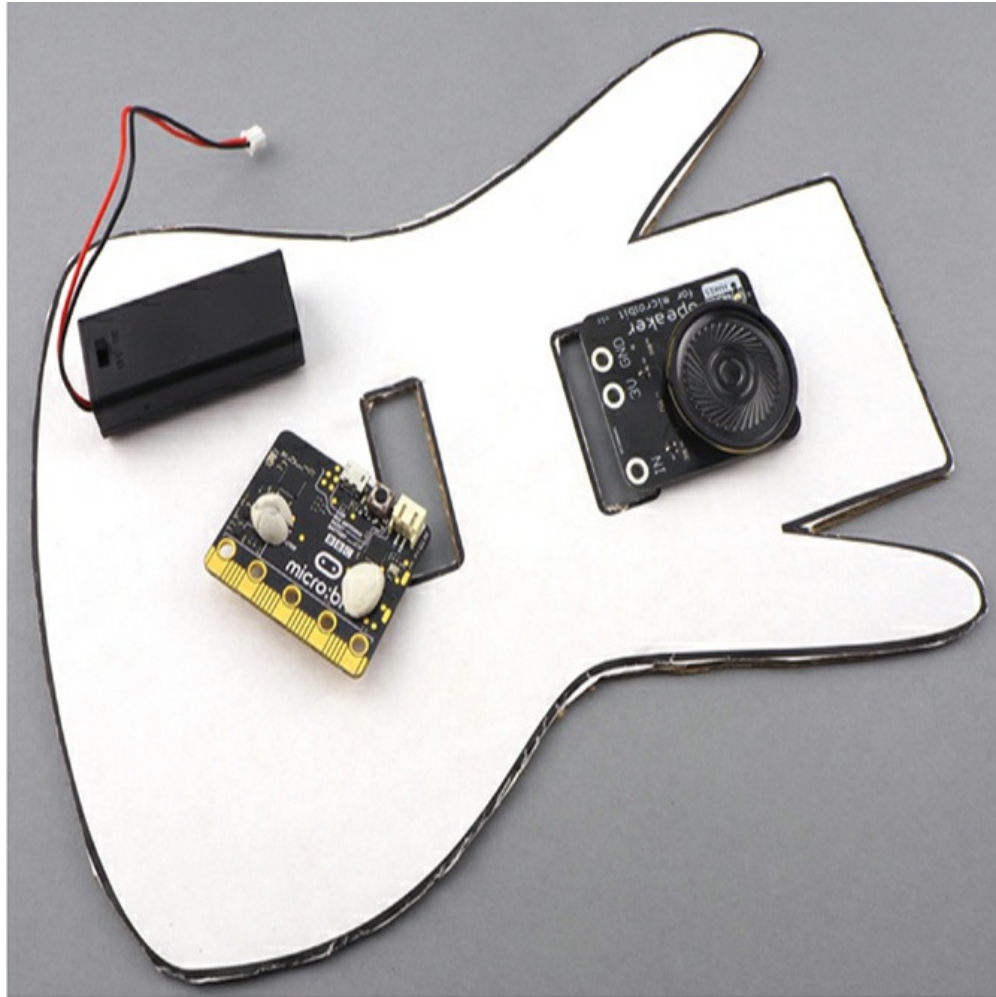

Figure 3-5: Attaching the micro:bit, the speaker, and the battery box
7. Using small balls of Blu-Tack, attach the speaker and the micro:bit to the guitar so that the edge connectors of both are accessible from the rectangular slots. Also attach the battery box, as shown in Figure 3-5.